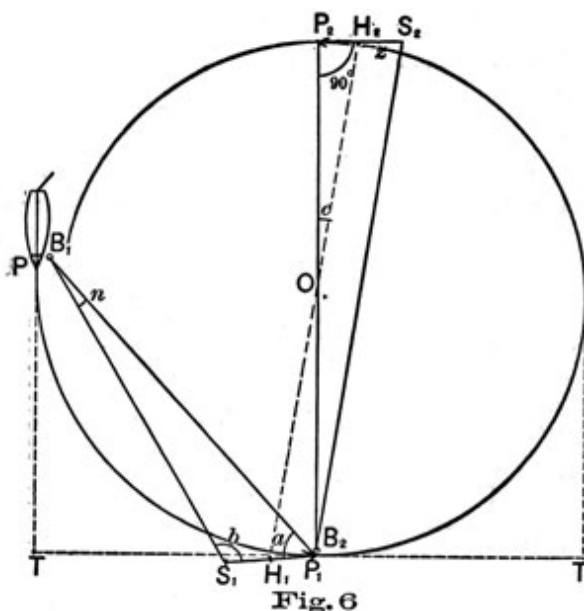

Fig. 6
*Lieut. Wyckoff's method.** Erect the usual cross-battens forward, and station one observer at these battens, which constitute the forward end of the base line. A second observer is stationed at the after end of the line. At the instant of putting the helm over, drop the first buoy, B_1 , abreast the cross-battens, noting the time. When the ship's head has turned through 90° , drop a second buoy, B_2 , also abreast the cross-battens, and simultaneously measure the angles a and b , subtended by the first buoy and opposite ends of the base line, Fig. 6. Note the time. When the second buoy comes abreast by the cross-battens, measure aft the angle z , subtended by the second buoy and forward end of base line. Note time when circle is completed. Let l represent the length of the base line, $P_1 S_1$.